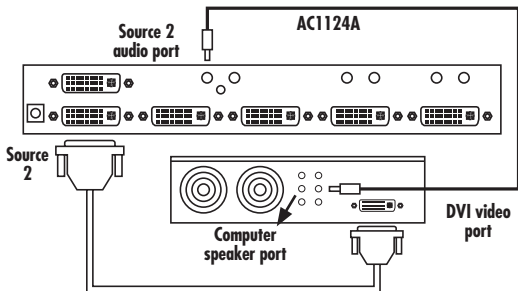

Figure 3-3. Connections for source 2.
3. Repeat Steps 1 and 2 for source 2. See Figure 3-3.